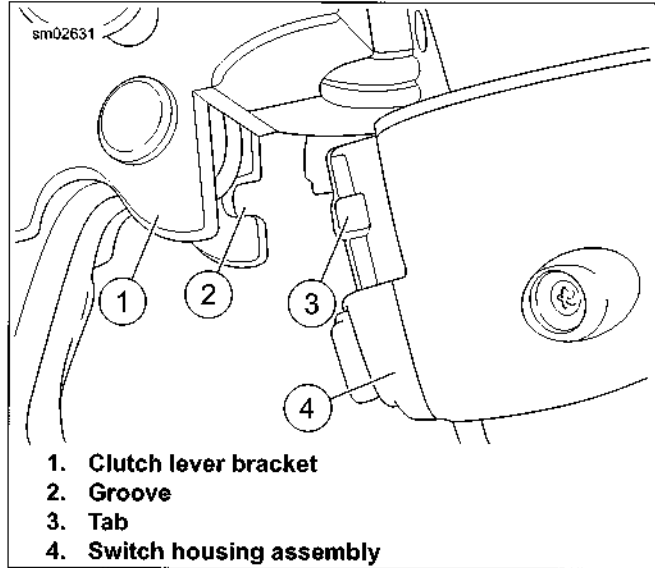

Figure 6-124. Clutch Lever Bracket
6. See Figure 6-124. Position clutch hand lever assembly inboard of switch assembly. Engage tab (3) on lower module housing in groove (2) at the bottom of clutch lever bracket.